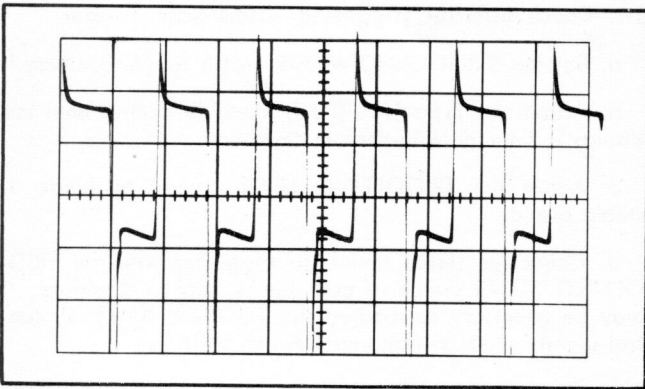

Fig. 6-2. Chopped waveform display.
c. Set the STABILITY control to PRESET and adjust the TRIGGERING LEVEL control for a stable display (Fig. 6-2).